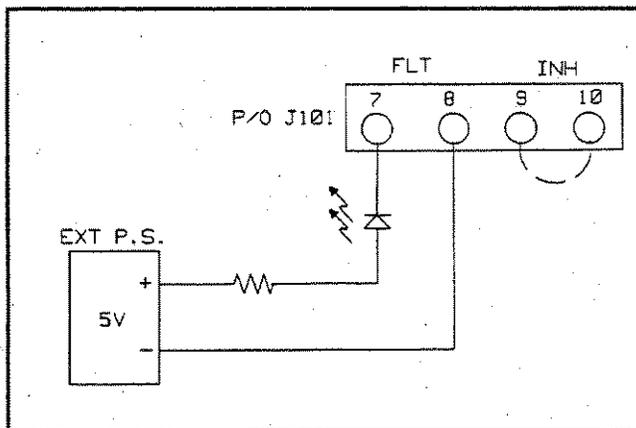

Figure 5-4. FLT/INH Circuit
The troubleshooting procedures provided in the following paragraphs should be performed in the sequence given in order to isolate the defective circuit and/or component. Refer to Figures 5-4 through 5-7 and proceed as described below.
- Connect a LED (HP/PN 1990-0486 or equivalent), a 3 K resistor (HP/PN 0686-3025 or equivalent), and an external 5 Vdc supply (HP/PN 6214C or equivalent) to the FLT output pins (J101-7 and 8) as shown in Figure 5-4.